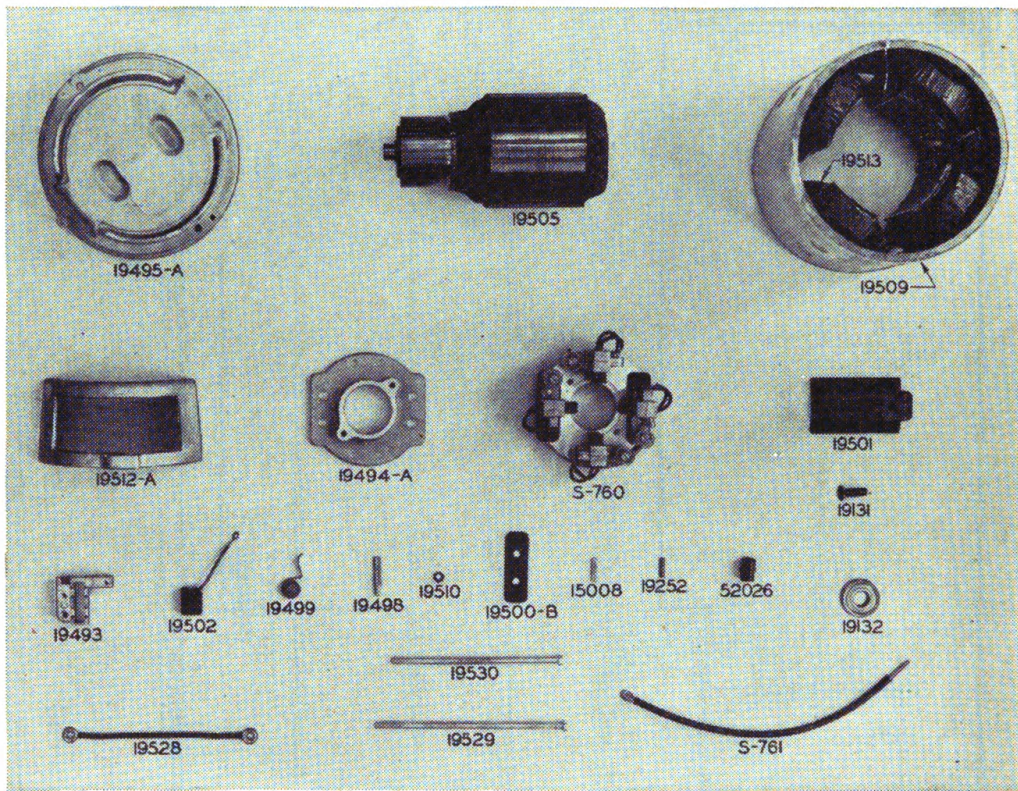

FIGURE 25.—Generator parts.
18. Generator parts (fig. 25).